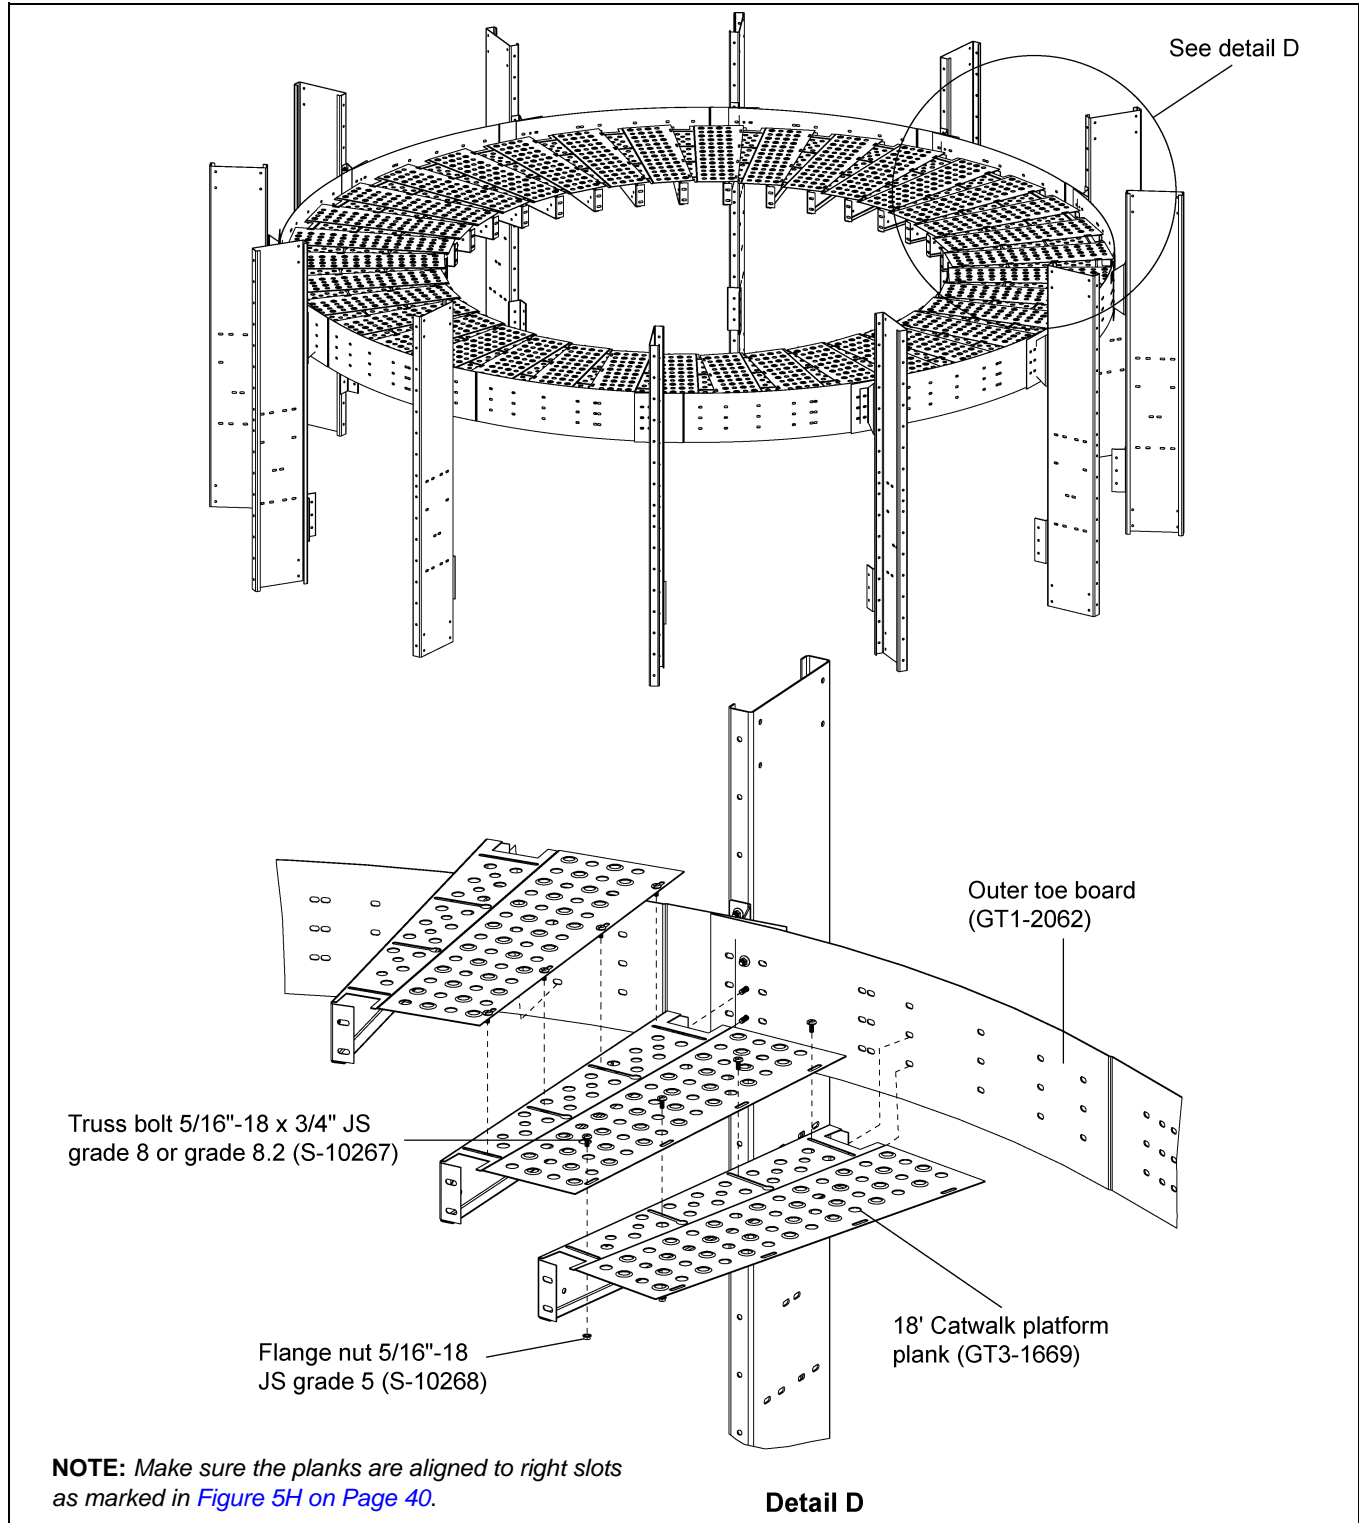

Figure 5F
1. Install the planks (GT3-1669) to the outer toe board (GT1-2062) using 3/8"-16 x 1" JS grade 8 or grade 8.2 bolts (S-7485) and 3/8"-16 ZN grade 5 nuts (S-968). (See Figure 5F.)